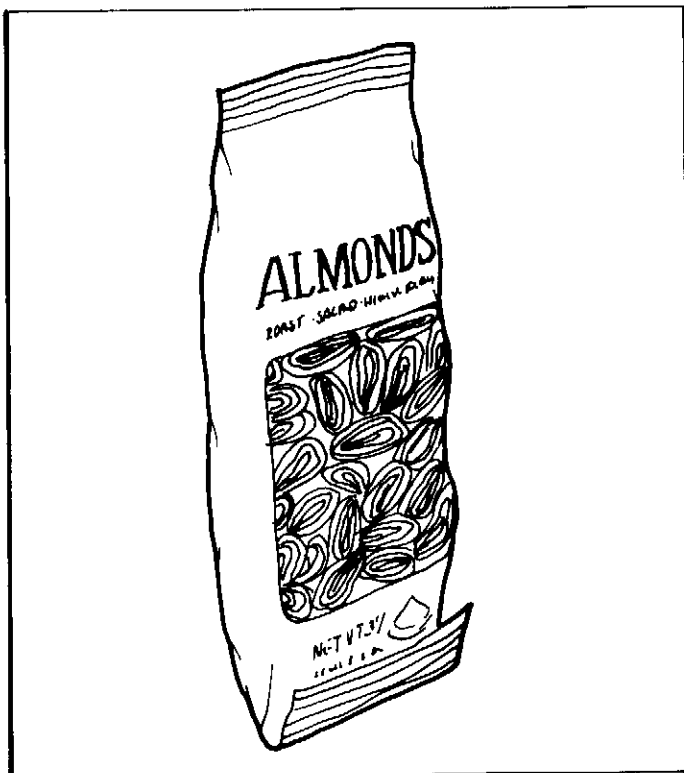
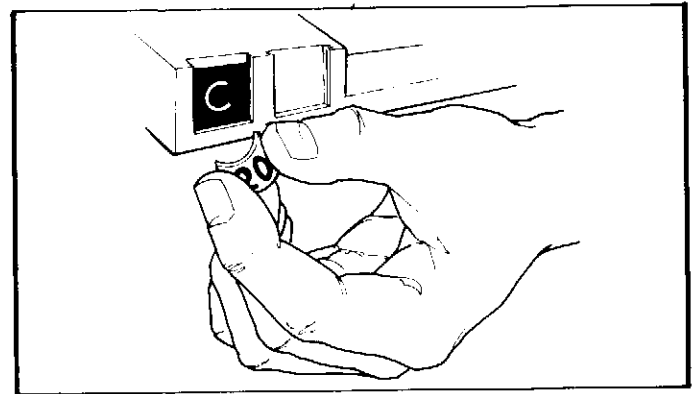

Figure 8. FOLD BAGGED ITEMS BOTTOM EDGE FORWARD AND UP.
Figure 9. INSTALLING PRICE TABS.
9. **BAGGED ITEMS** in the 8-selection shelves if not loaded properly could be a problem. The sealed edge of the bag may get under the spiral wire causing the product to hang up after it has been vended. It is recommended that the lower edge on these types of product be folded forward and up (see Figure 8) next to the product before inserting into the spiral space.
11. **LOCK PRODUCT SHELVES.** After all the product has been loaded be sure all shelves are returned to their vend position behind the front roller guide (page 16, item 28).
12. **INSTALL PROPER PRICE TABS** into price tab holder for each selection in the main product area. (See Figure 9.)